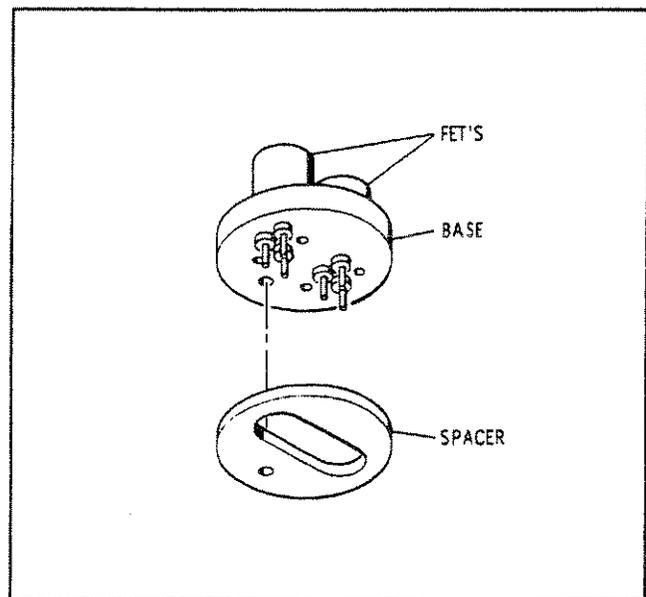

Figure A1. FET Assembly and Spacer
- a. Insert the FET Assembly leads through the spacer and printed circuit board. Refer to Figure A1.